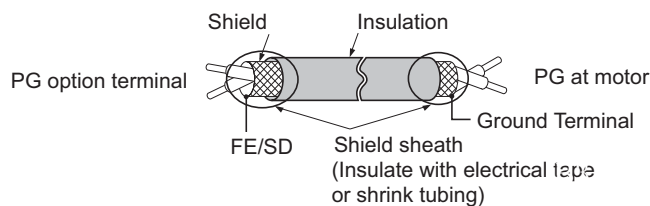
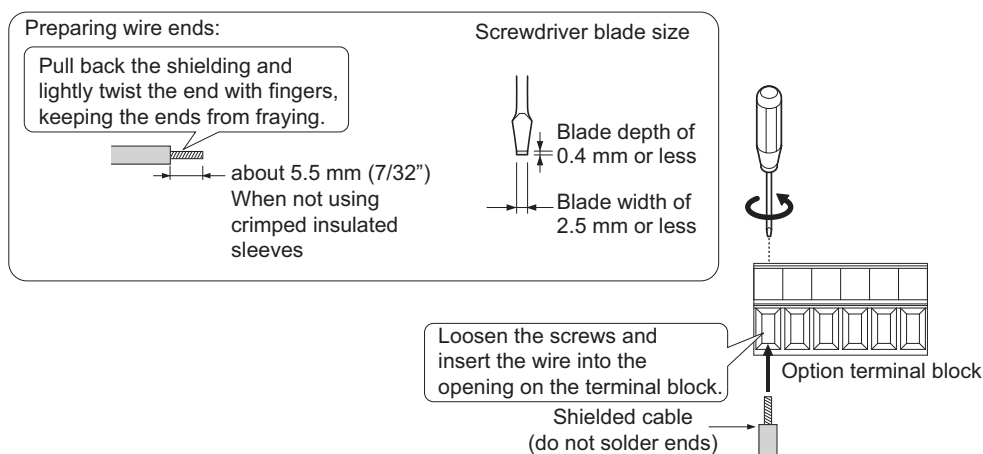

Figure 8.6 Preparing Ends of Shielded Cable
Figure 8.7 Preparing and Connecting Cable Wiring
2. There are two screw holes on the drive for use as ground terminals (I). When connecting three options, two ground wires will need to share the same drive ground terminal.
4. Prepare and connect the wire ends as shown in Figure 8.6 and Figure 8.7. Refer to Wire Gauges and Tightening Torques on page 418 to confirm that the proper tightening torque is applied to each terminal. Take particular precaution to ensure that each wire is properly connected and wire insulation is not accidentally pinched into electrical terminals.